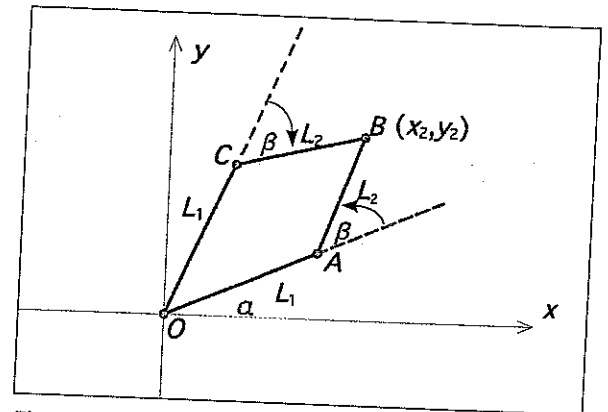

Fig. 5 Each of the two values for  $\beta$  produces a different way to get to point B.
- a. Make the substitutions into the equations (1) and (2) above in number 5.
- b. Add the squares of the two equations. Use the Pythagorean identities to simplify the results. You will come up with an answer in terms of  $\alpha$  and  $\beta$ . Call this equation (3).
- e. Remember that the domain for  $\beta$  is,  $[0^\circ, 360^\circ]$ . Use the equation in 6c to solve for  $\beta$ . There will be two answers but only use the principal angle. See figure 5.